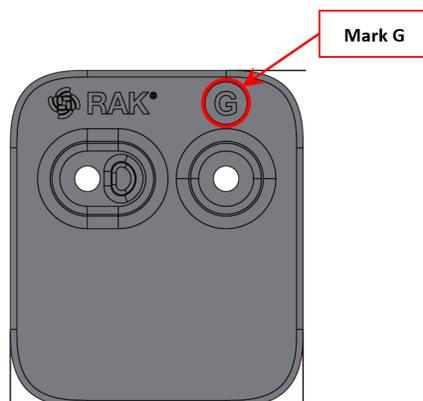

Figure 26: Mount accessory marked with letter G
1. For magnet mount, use one (1) up to two (2) pieces of mount accessories with an indicator marked with the letter **G** as shown in **Figure 26**.